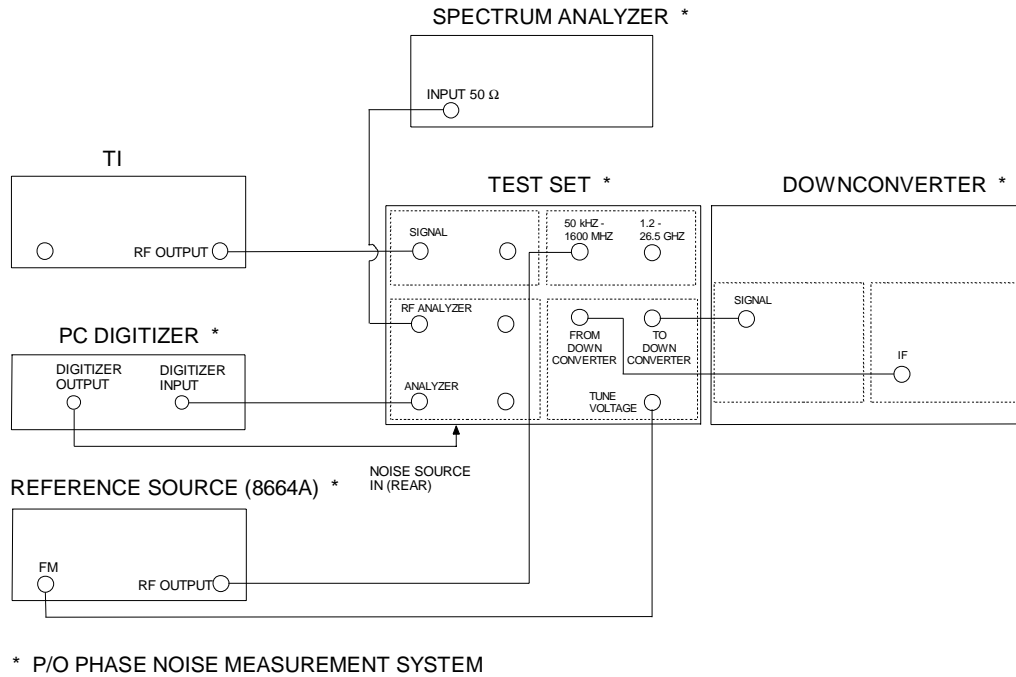

Figure 4.
4.5.1 Connect equipment as shown in Figure 4.